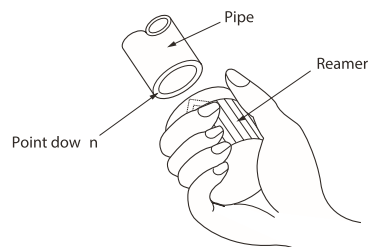

**Fig. 7.4**
1. Make sure that the pipe is cut at a perfect 90° angle. Refer to Fig. 7.4 for examples of bad cuts